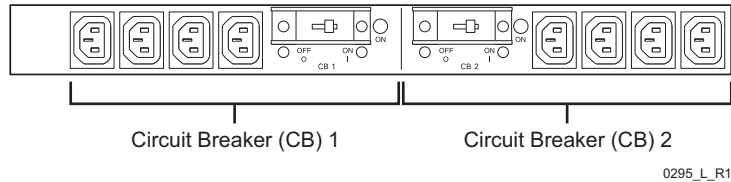

Figure 21-6. Location and Order of the Circuit Breakers in the PDU
- a Note the numbers indicated on the AC cord labels and the PDU circuit breakers to which they connect. Figure 21-6 shows the location and order of the two circuit breakers in the PDU.